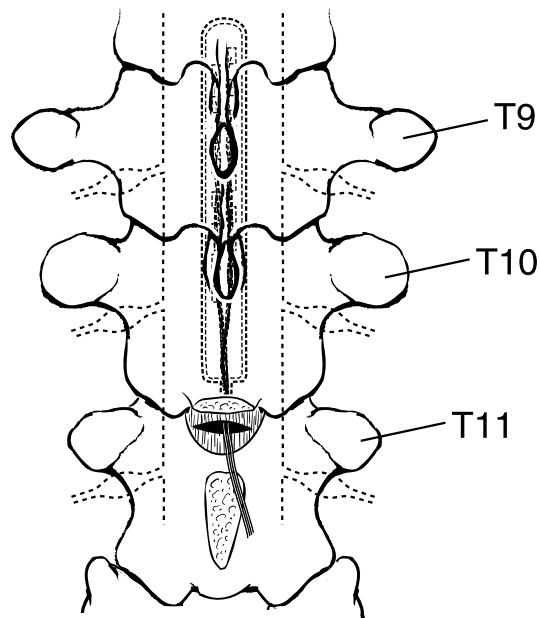

FIGURE 4
- Using fluoroscopic guidance, place the lead into the intended position. Ensure all electrodes are within the epidural space and that the lead paddle will be stabilized following implantation (see Figure 4).